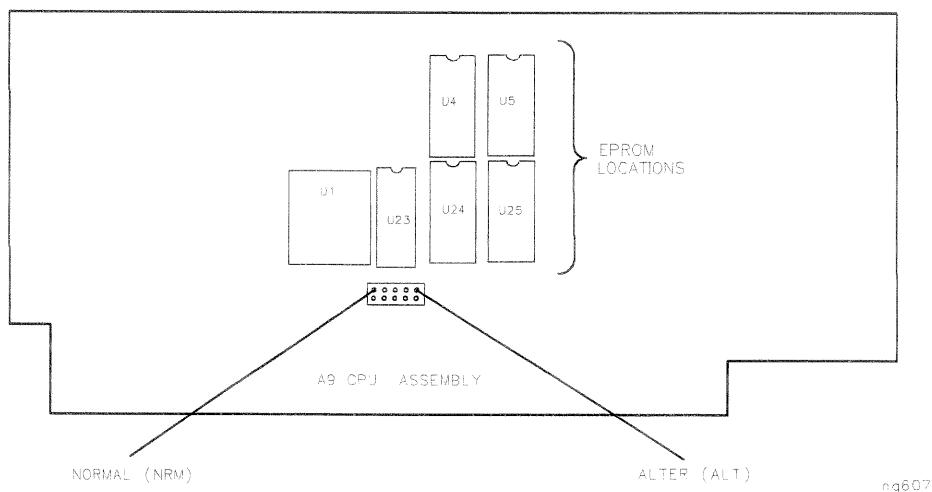

Figure 6-2. Jumper Positions on the A9 CPU
6. Move the jumper to the NRM position as shown in Figure 6-2.